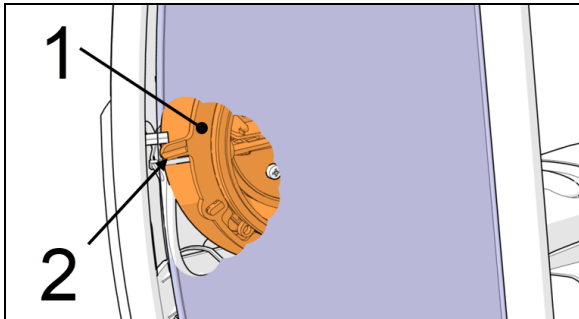

FIGURE 103: (1) LOCK RING; (2) TAB
1. Underneath the mirror, reach for the tab of the locking ring (item 2, Figure 103).